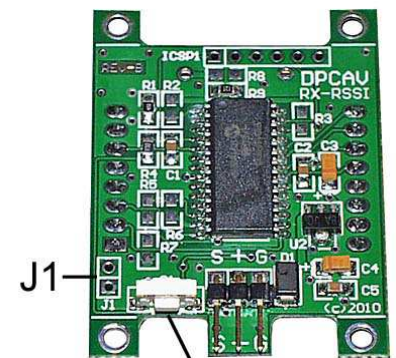

Figure 4
1. Although not needed for typical applications, an externally mounted push switch can be added to the meter. Simply solder a normally-open push switch (not included) to the meter's J1 pads (see Figure 4). Once installed, the external switch can be remotely mounted and will perform the same as the meter's push switch.